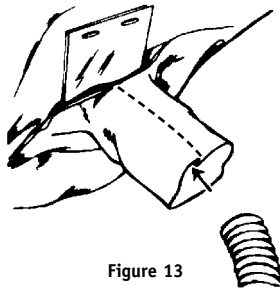

Figure 13
2. Insert the open end of the breathing tube approximately five inches into hood's air entry sleeve (see Figure 13). Do not insert breathing tube into hood air entry sleeve more than 6 inches as it may cause a flow restriction.